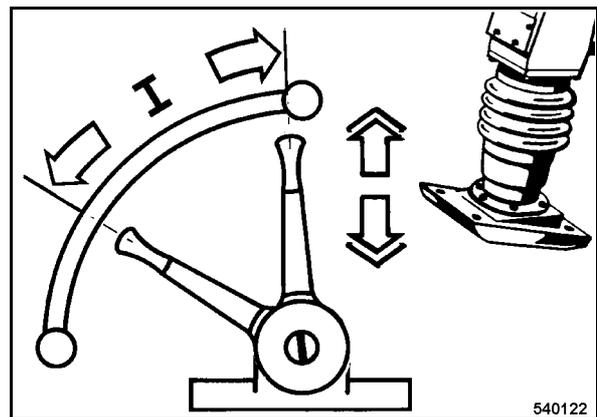

Fig. 20
- In order to achieve a smooth running of the machine adjust the throttle lever in the range I (Fig. 20), depending on the condition and the density of the soil.